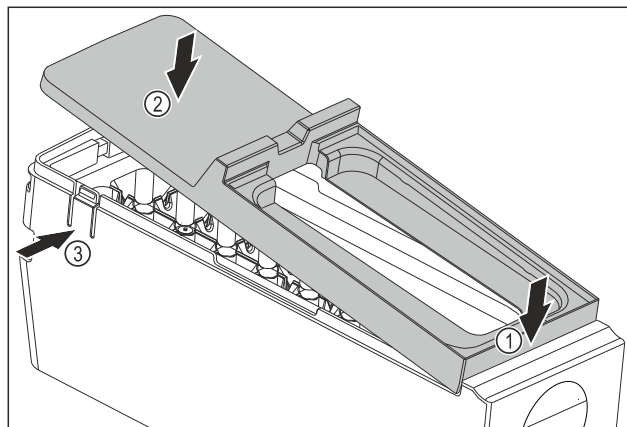

Fig. 123
- Installing the EasyTwist-Ice body cover: Place the cover on the front. Fig. 123 (1)
- Lower the cover at the rear. Fig. 123 (2)
- The cover locks into both tabs Fig. 123 (3) audibly.